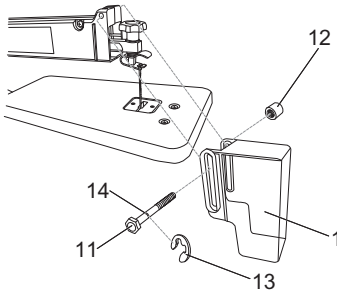
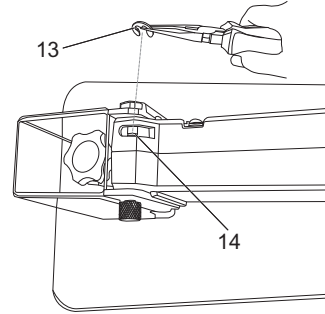

Fig. 1
Fig. 2
- > Line up the slotted hole in the protective guard (1) with the hole in the upper arm casing, and insert the bolt (11) from left side as shown in Fig. 1.
- > Tighten the knurled nut (12) sufficient on the right side, so that the guard is firm but capable of movement. Do not over tighten.
> Align the opening of the retaining collar (13) with the sharp-nose pliers (not supplied) to the groove (14) on the bolt (11), then push down the retaining collar (13), and secure it to the groove. (Fig. 2)